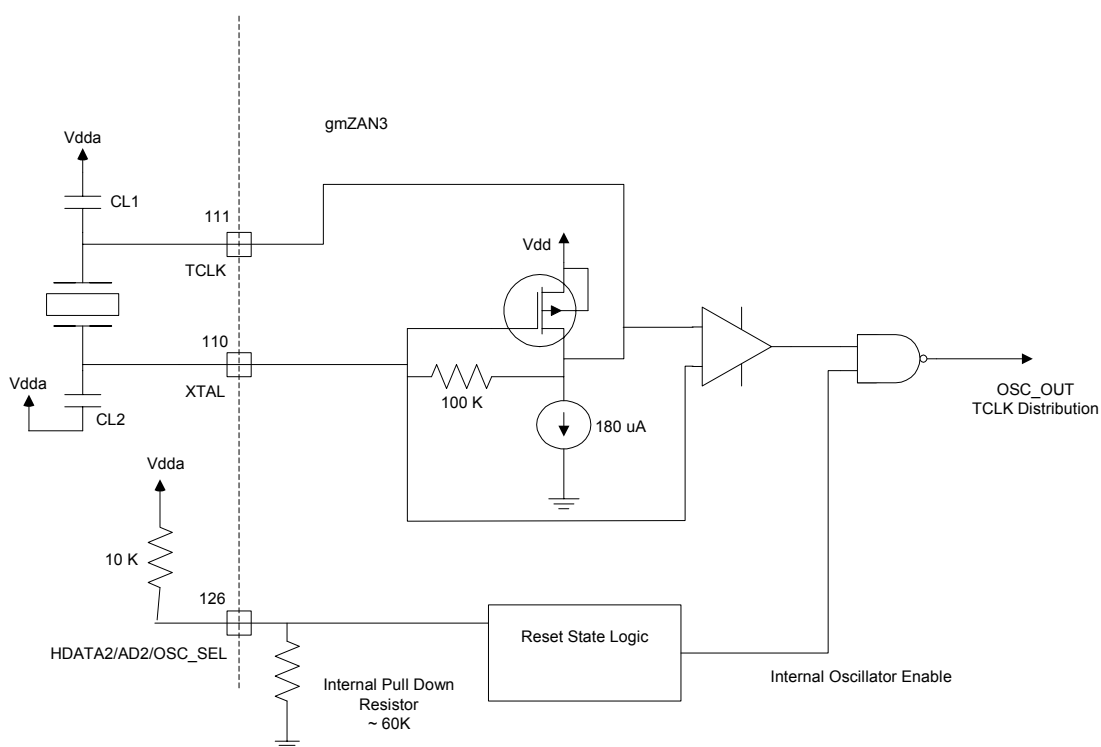

Figure 5. Using the Internal Oscillator with External Crystal
1. **Crystal Input Clock (TCLK and XTAL).** This is the input pair to an internal crystal oscillator and corresponding logic. A 14.318 MHz crystal is recommended. Other crystal frequencies may be used, but require custom programming. This is illustrated in Figure 5 below. This option is selected by connecting a 10KΩ pull-up to HDATA2/AD2/OSC_SEL. Alternatively a single-ended TTL/CMOS clock oscillator can be driven into the TCLK pin (leave XTAL and HDATA2/AD2/OSC_SEL as N/C in this case). This is illustrated in Figure 8 below. See also Table 14.